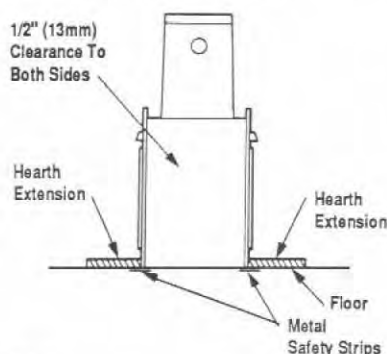

Figure 4
Note: To avoid a "pull-down" draft condition; we strongly recommend that the hearth extensions be raised to the same height on both openings as illustrated in Figures 4 and 5.
Step 2. Insert the metal safety strips, packaged with the fireplace, beneath the fireplace as illustrated (Figures 4 and 5). The safety strips should overlap 1" (25mm) for continual coverage of the floor.